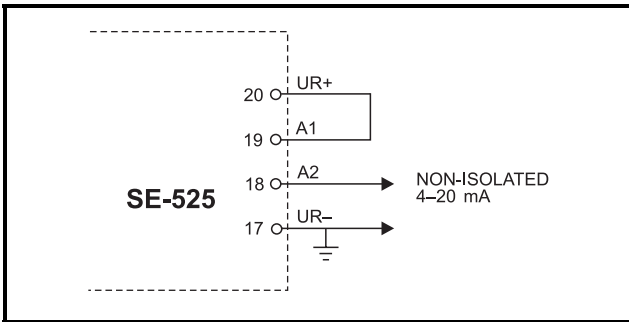

FIGURE 5. Self-Powered Connection.
The current output can be connected as a self-powered or loop powered output as shown in Fig. 5. The self-powered connection uses the unregulated output (UR) to power the 4–20 mA output with the common being circuit ground. This is a non-isolated connection.